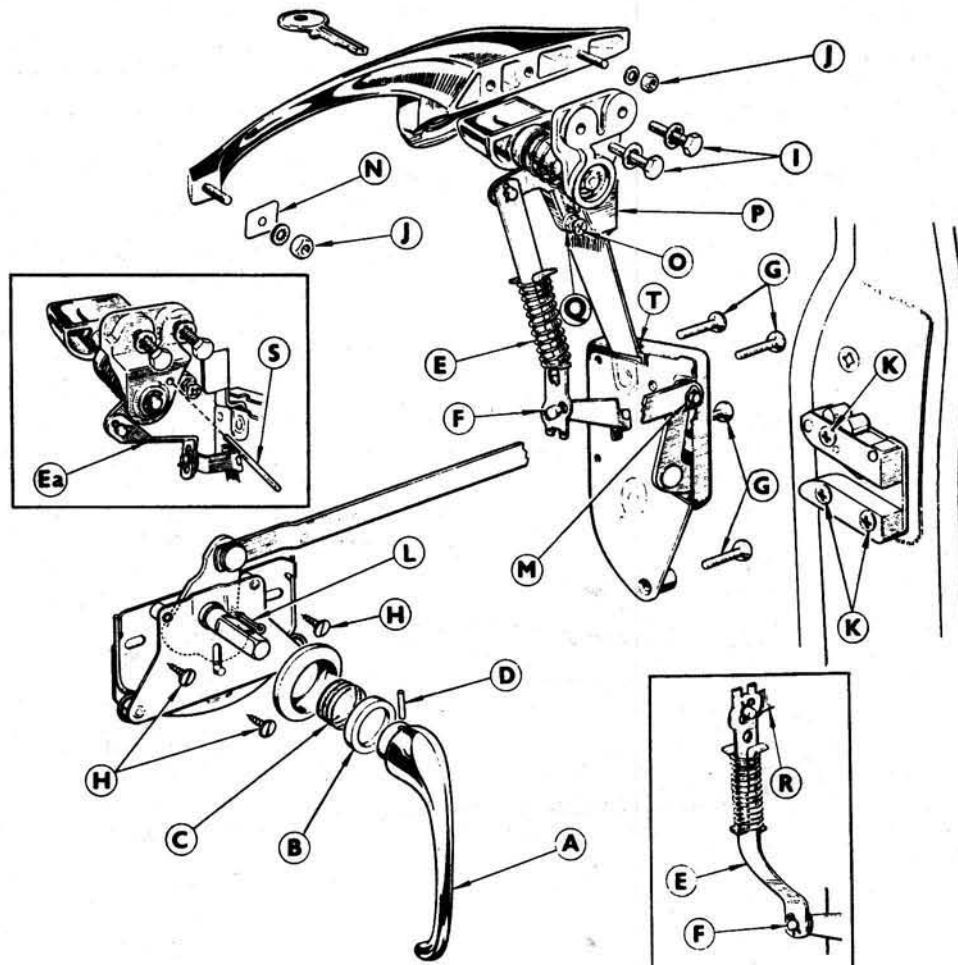

Fig.12.16. Latest type door lock mechanism
1 The latest type of door lock mechanism is shown at Fig.12.16.
11 Now attach the connecting link (E) (Ea for rear doors) to the dowel on the plunger operating lever (R) and then fit the circlip. The links must be fitted in the positions shown in Fig.12.16 but the extendable link used on early models is fitted in the reverse direction and the middle of the three holes are used as shown at the inset at the bottom right hand of the Figure. The old pattern link should be replaced by the latest type if practicable.